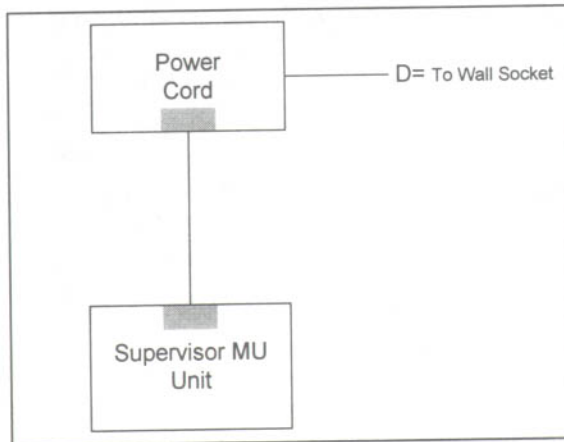

Figure 3-5: The Power Supply Block Diagram
2. Connect the Power Cord's other connector to the Wall Socket. This connects the Supervisor MU Unit to the Power, as the Block Diagram in Figure 3-5 illustrates.